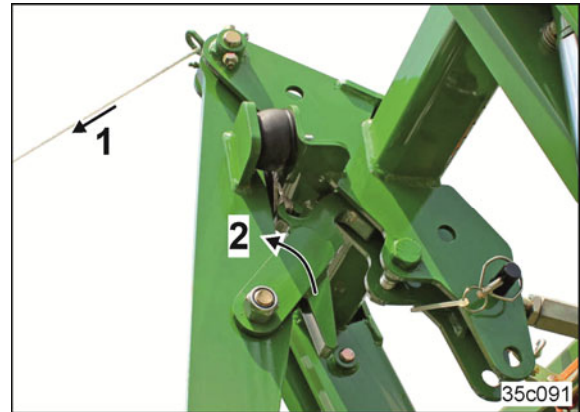

Fig. 131
2. Pull on the cord (Fig. 131/1).
- The locking hook (Fig. 131/2) opens.
4. Release the (Fig. 131/1) cord.
If the lifting frame fails to lock, e.g. when turning at the end of a field (see Fig. 132), do not pull the cord (Fig. 131/1).